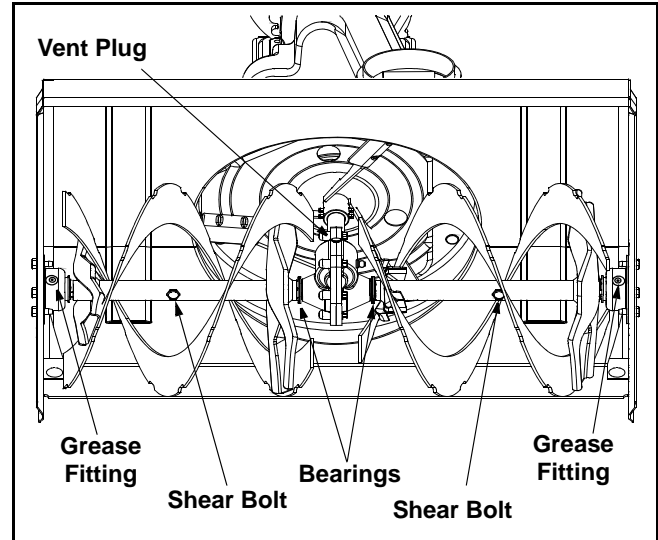

Figure 13
IMPORTANT: Do not overfill the gear case, since damage to the seals could result. Be sure the vent plug is free of grease in order to relieve pressure. See Figure 13.
At least once a season, remove the shear bolts from the auger shaft and spray lubricant inside the shaft. See Figure 13.
- Grease fittings can be found at either end of the auger shaft. Lubricate with a grease gun once a season. See Figure 13.
- Every season lubricate the auger bearings and the bearings on the side of the frame with light oil. See Figure 13.
The augers are secured to the spiral shaft with two shear bolts and hex lock nuts. If you hit a foreign object or ice jam, the snow thrower is designed so that the bolts may shear. Refer to Figure 13.